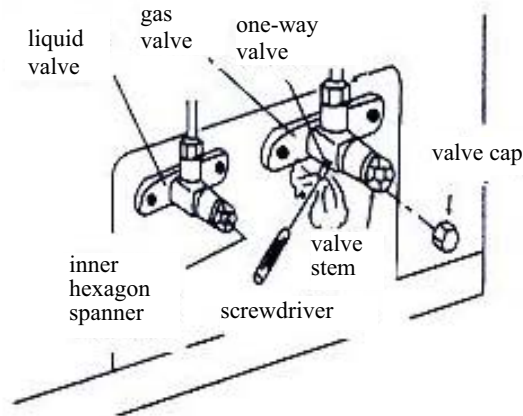

Fig.3.1.9
- ◆ Open the element of liquid valve and gas valve to full (See Fig.3.1.9).